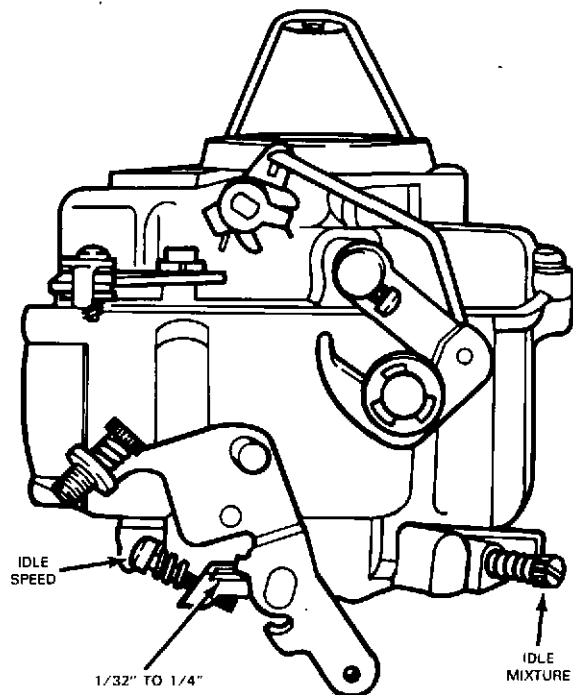

FIG. 2 Throttle Control Rod
2. Check the gap between the carburetor throttle shaft lever and its maximum open position stop (Figure 2). It should be 1/32 to 1/4 inch wide.